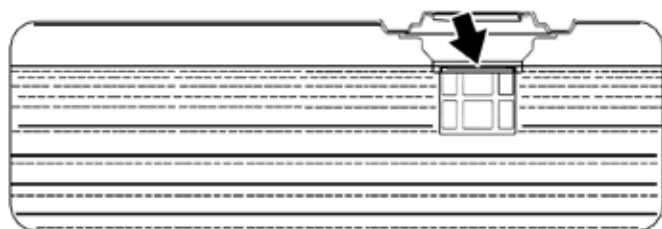

Figure 6 - Maximum Gasoline Fill Level
6. Slowly add gasoline into the fuel tank. Be very careful not to overfill the tank. The gasoline level should NOT be higher than the filler neck (see Figure 6).